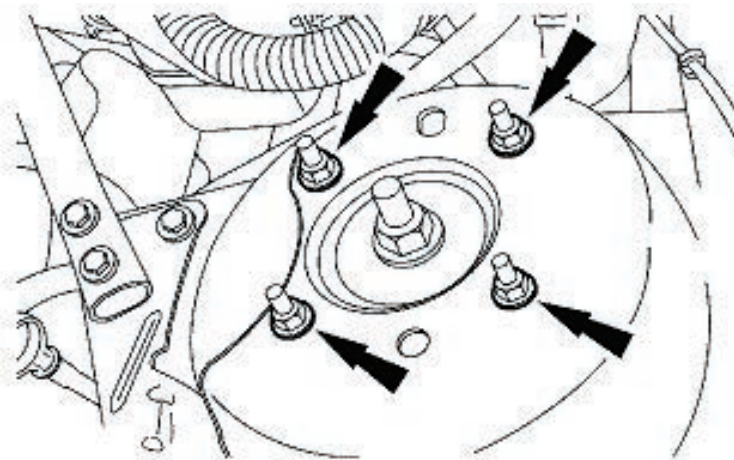

fig. 5
5. Under the hood, unscrew the upper mount from the vehicle chassis (fig. 5). Remove strut from vehicle.